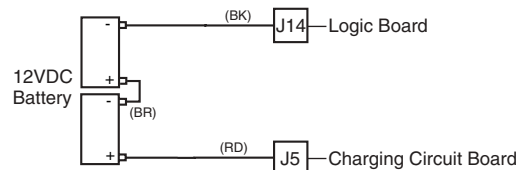

Figure 2
- Reconnect the battery power. The alarm should provide a 5 second notification. If alarm does not activate, disconnect power and check battery connections as shown in Figure 2.